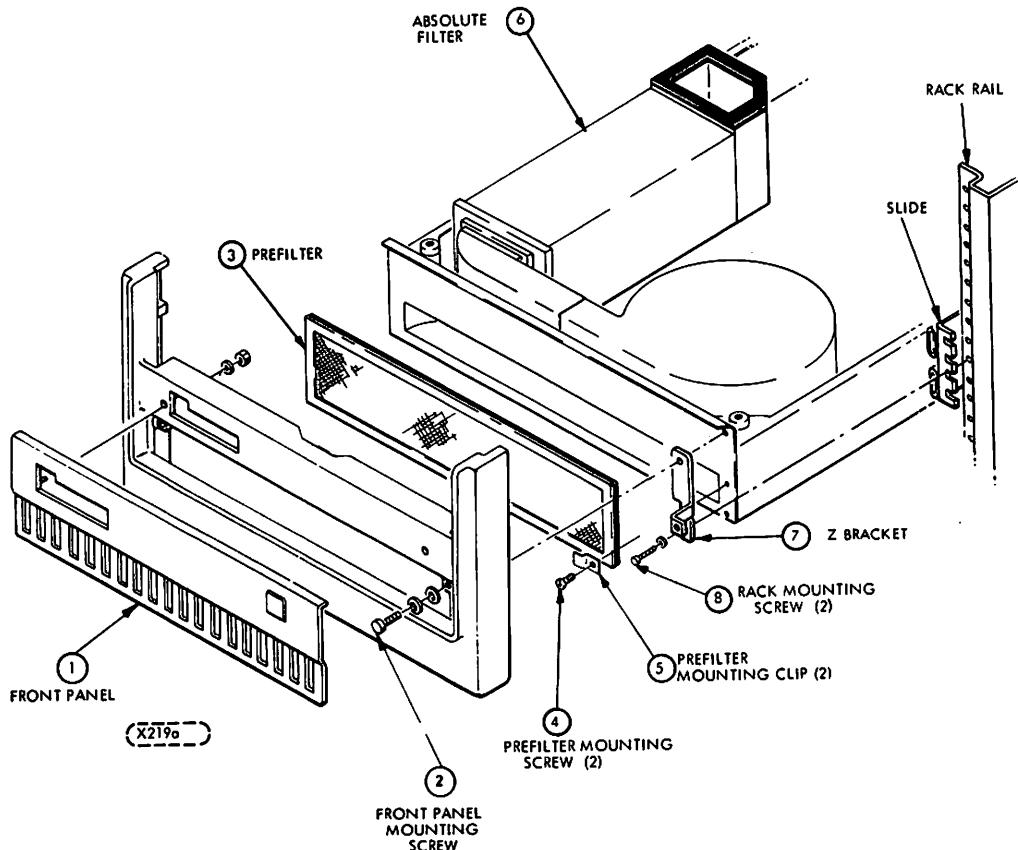

FIGURE 6-1. FILTER REMOVAL AND REPLACEMENT
Refer to Figure 6-1 for the following procedure.
3. Remove the two screws **(2)** which secure the front panel and remove the front panel **(1)**. Refer to Figure 6-1.